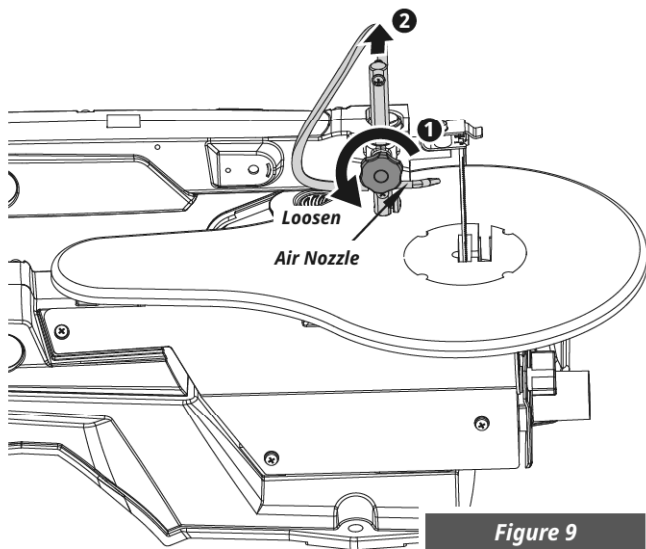

Figure 9
1. Adjust the star knob to raise the drop foot fixing pole, which leads to the drop foot going up. (See Figure 9)